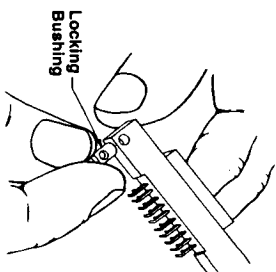

Figure 3
3. Locking bushing accessory, 10-411196-4 (two per connector), may be inserted into any PC connector body from the back into the large mounting holes at each end. (Ref. Figure 3) The 0.126 inch diameter cross hole in the locking bushing must be aligned with the 0.126 inch diameter cross hole in the connector body. These holes accept a 4-40 UNC-2A screw, for mounting the connector to the printed circuit board. The screw should be used with a suitable washer under the head and a suitable washer and nut for fastening. The front of the locking bushing has a 4-40 UNC-2B thread which will mate with the locking screw accessory of an I/O connector.